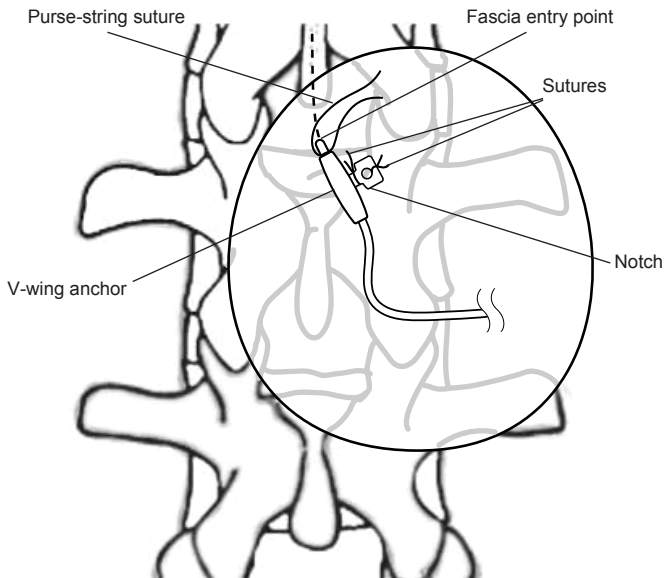

Figure 6. Placing the v-wing anchor.
19. Using heavy nonabsorbable sutures, suture the anchor wings together at the notch with the wings flat against each other to properly engage and grasp the catheter (Figure 6).
20. Using heavy nonabsorbable sutures, suture the anchor wings together through the suture holes and attach to the surrounding fascia (Figure 6).